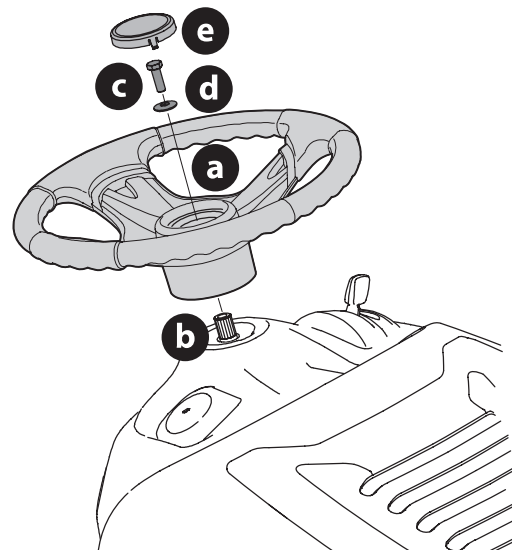

Figure 6
2. With the front wheels of the tractor pointing straight forward, align the steering wheel (a) and place it onto the steering shaft (b) (Figure 6).
3. Secure the steering wheel (a) with the hex bolt (c) and washer (d) from under the steering wheel cap (e) and torque to 18-22 ft-lbs (24-30 N-m) (Figure 6).
4. Place the steering wheel cap (e) over the center of the steering wheel (a) and push downward until it “clicks” into place (Figure 6).
**NOTE:** The hex bolt (c) securing the steering wheel (a) has thread locker applied to it, so if it is removed, it is recommended that the hex bolt (c) be replaced or thread lock re-applied (Figure 6).